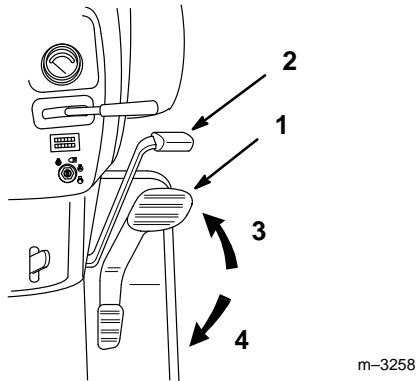

Figure 17
4. Place your foot on the traction control pedal and slowly press on the top of the pedal to move forward, or on the bottom of the pedal to move backward (Fig. 17). The farther you move the pedal in either direction, the faster the machine will move in that direction.